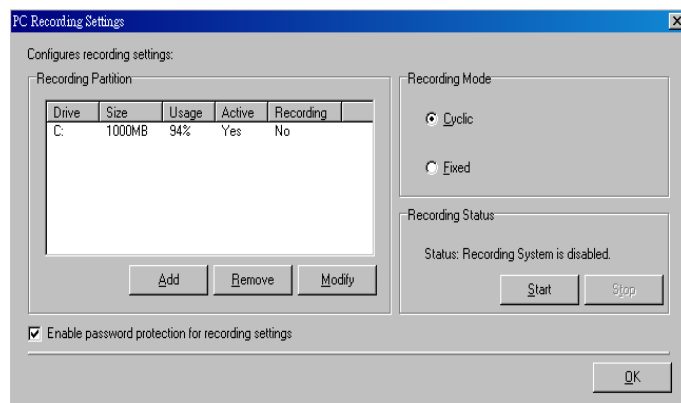

Fig 6.5a
Step 1 : Click **[Recording]** → **[PC Recording]** → **[Setting]** option to setup the PC recording as **Fig 6.5a**.